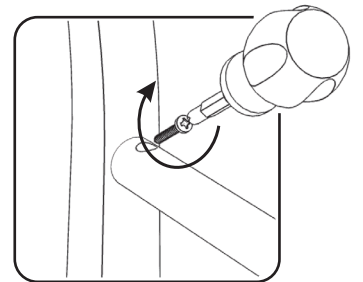

Figure 2
Attach Front Stretcher (C) to unit with Wood Screws. (See Figure 2)